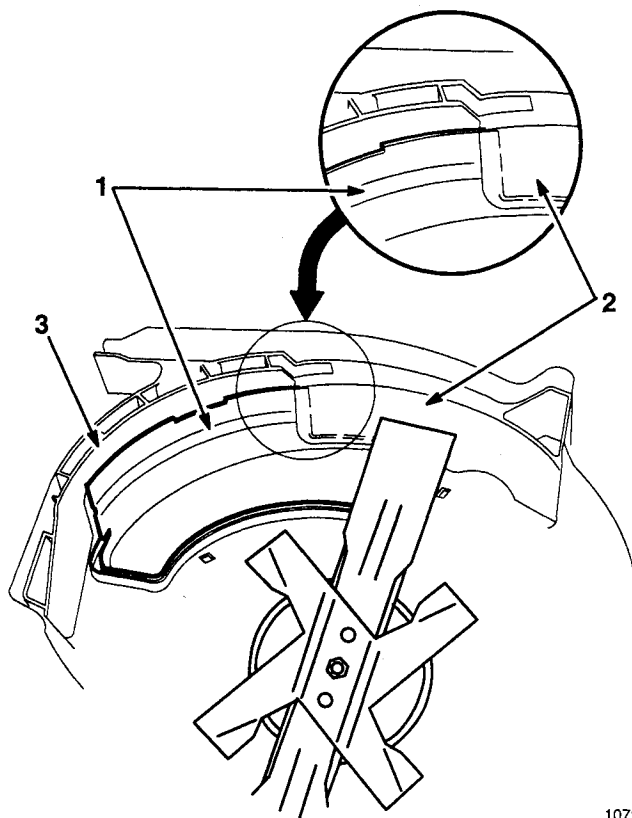

Figure 48
6. Check clearance between blade tips and mulch plate baffle making sure there is no contact (Fig. 48).